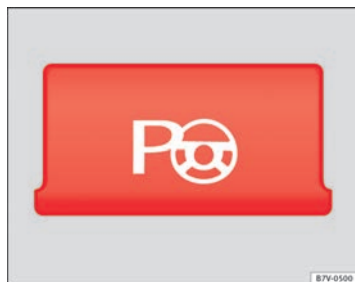

Fig. 145 Detailed view of the centre console: button to switch the park assist system on manually.
- **Parallel parking:** press the button at speeds up to 50 km/h **once**. When the function is enabled, the button ⇒ fig. 145 will light up.
- **Perpendicular parking:** press the button at speeds up to 50 km/h **twice**. When the function is enabled, the button ⇒ fig. 145 will light up.
- Press button . When the function is enabled, the button  $\Rightarrow$  fig. 145 will light up.